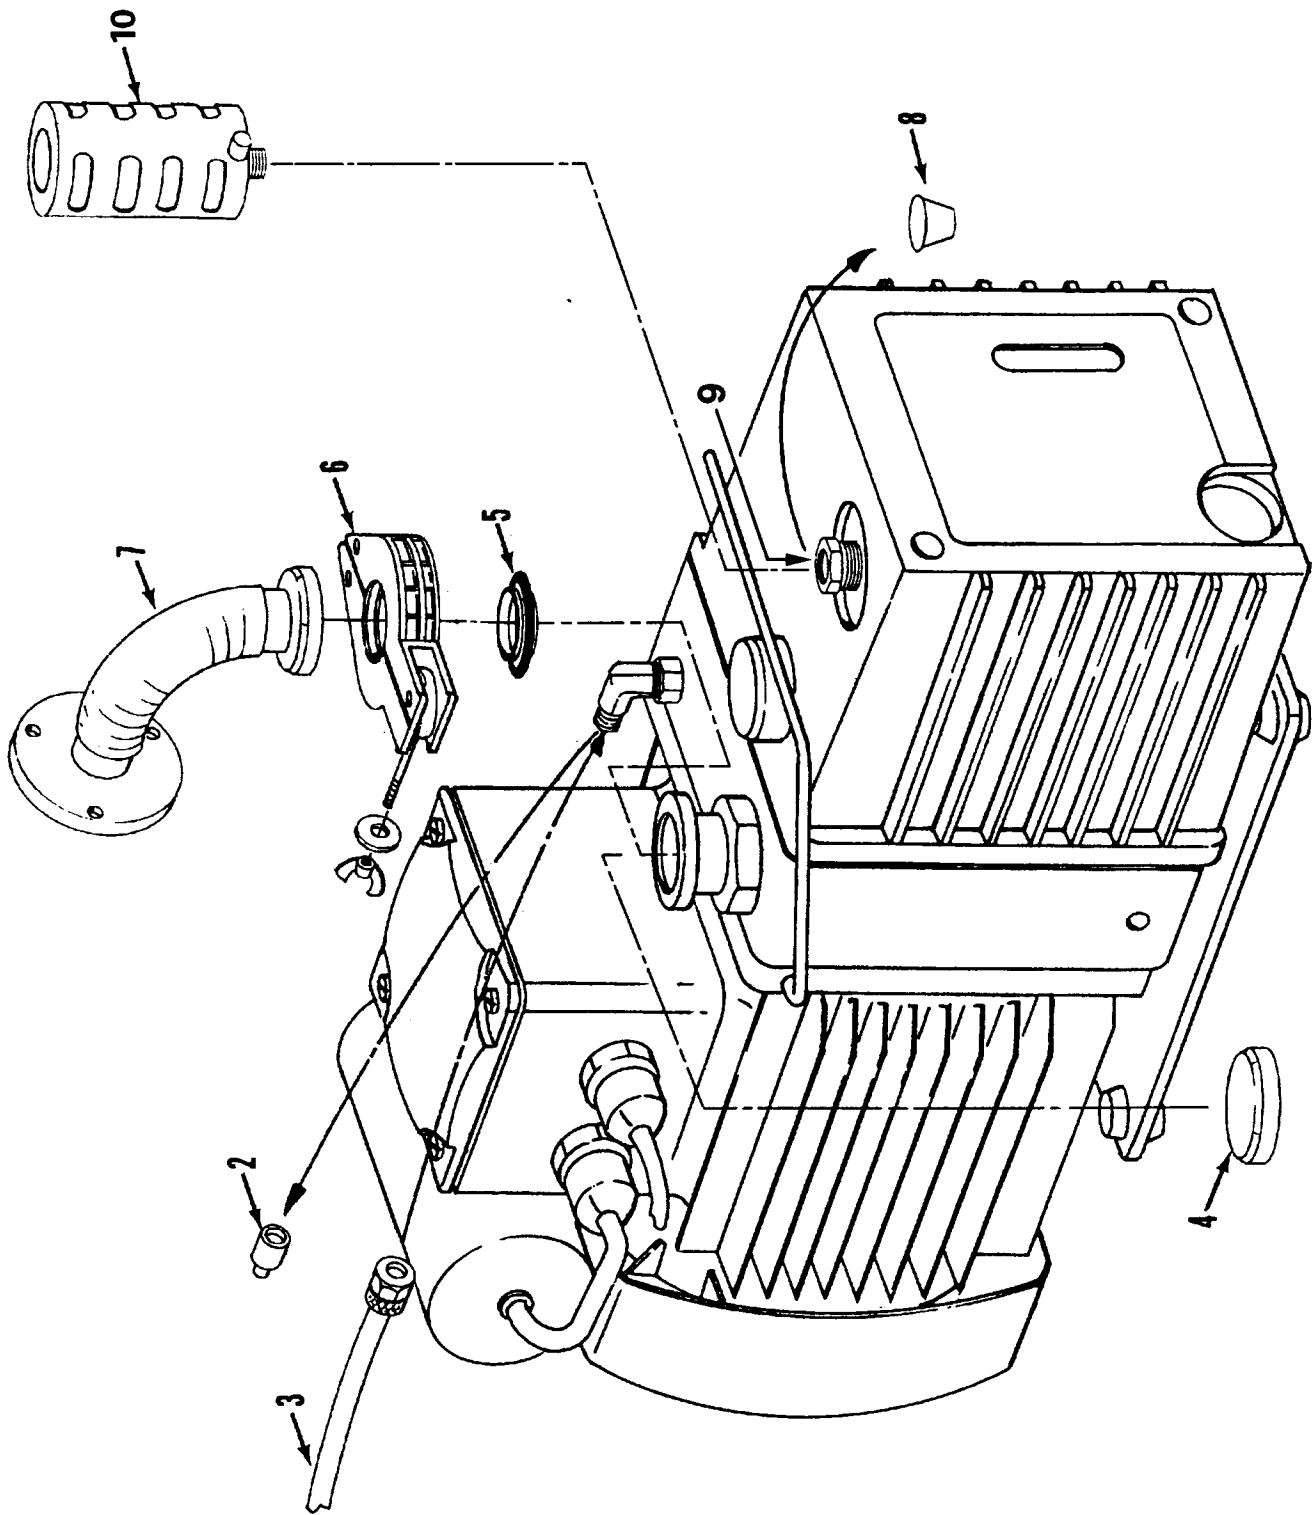

Figure 1-2
The Spectron 600T is shipped without oil in the internal roughing pump, which must be filled prior to use (see the Edwards 600D manual addendum for shipping information specific to the 600D Dry Leak Detector. In addition, to protect the pump during shipment, it is fitted with two blanks that cover its intake and filter connections. Remove these blanks and attach the flex hosing and filter (refer to Figure 1-2 for a diagram illustrating the proper installation for the hose and filter connections). Attach the flex hosing with the provided centering ring and clamp, and thread the exhaust filter into the adaptor on the pump (item 9). Also, the unit's purge tubing (refer to Figure 1-2) is fitted with a 1/4" ferrule blank. Unscrew the blank and reattach the tubing as indicated in Figure 1-2.
Parts List for Figure 1-2: